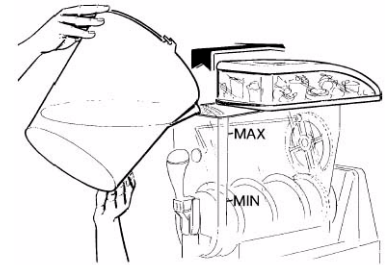

FIGURE 8
2. Slide the merchandising lid either forward or toward the back of the bowl until the “stops” reach the edge of the bowl. (It is not necessary to remove the merchandising cover.) When sliding lid back make sure that no droplets of water come off lid. Pour the prepared product into the bowl (see Figure 8). Do not spill any material on lid or on bowl. There is a minimum and maximum fill line on the bowl. Do not overfill or run the unit without enough product. Running unit with product below the minimum full line may cause damage to the unit.